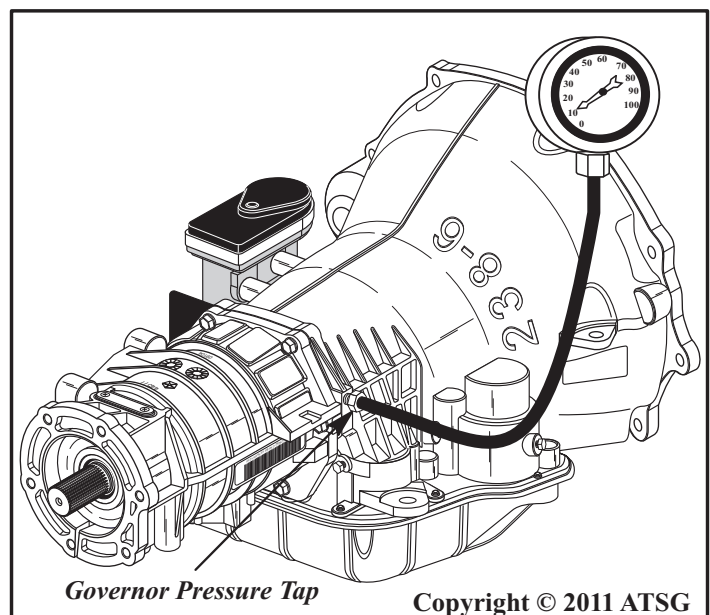

Figure 49
- (1) If the vehicle has a wrong gear start and *does* upshift to fourth gear, place a 100 PSI pressure gauge on the governor tap, as shown in Figure 49. For example, if 0 PSI is observed while taking off in 2nd gear, a sticking 1-2 shift valve is the cause. To correct this condition will require removing the valve body and freeing the 1-2 shift valve.
- (2) If the sensor indicates that 12 PSI is in the governor circuit, and the pressure gauge verifies it, this means that the sensor is working properly and the Governor Pressure Solenoid is most likely defective and will need to be replaced. This will commonly set a DTC P1762 or P1763 which will then cause third gear starts. (See Pages 27 & 32).
- (3) Without a capable scanner, voltage checks can be made on the governor pressure solenoid wire and the governor pressure sensor wire with your DVOM. Use a pressure gauge attached to the governor pressure tap as shown in Figure 49. Following is the procedure for these tests.